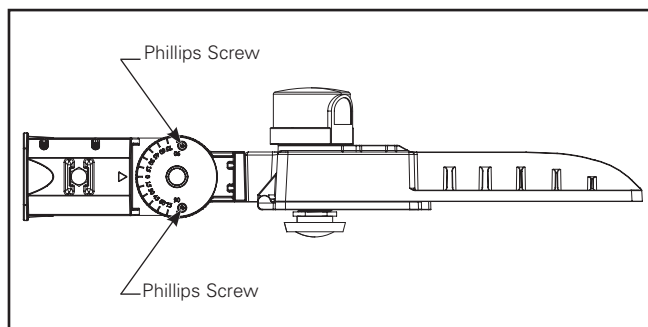

Figure 2.
1. Remove the cover plate on the slipfitter mounting arm via two Phillips head screws and set aside. (Figure 2.) No need to completely remove the four Phillips head screws, there is a rubber ring on each screw to hold it to the cover plate.
- Reinstall slipfitter cover plate via two Phillips head screws. (Figure 2.)